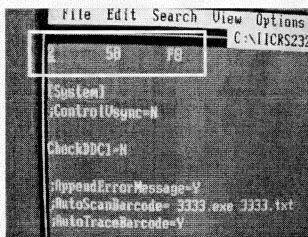

Fig. 9
- Config. setting "2 58 F0" as shown in Fig. 9 for 180MT10P.